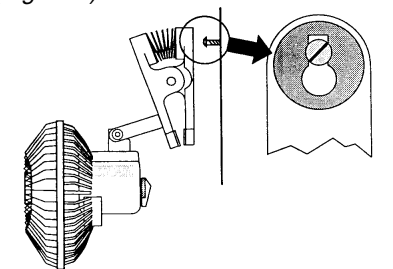

Figure 2
- WALLMOUNT USE:** Install a Screw (#8 x 3/4" Wood Screw or equivalent...not supplied) in the wall and hang the Clip Assembly on the Screw. (Figure 2)